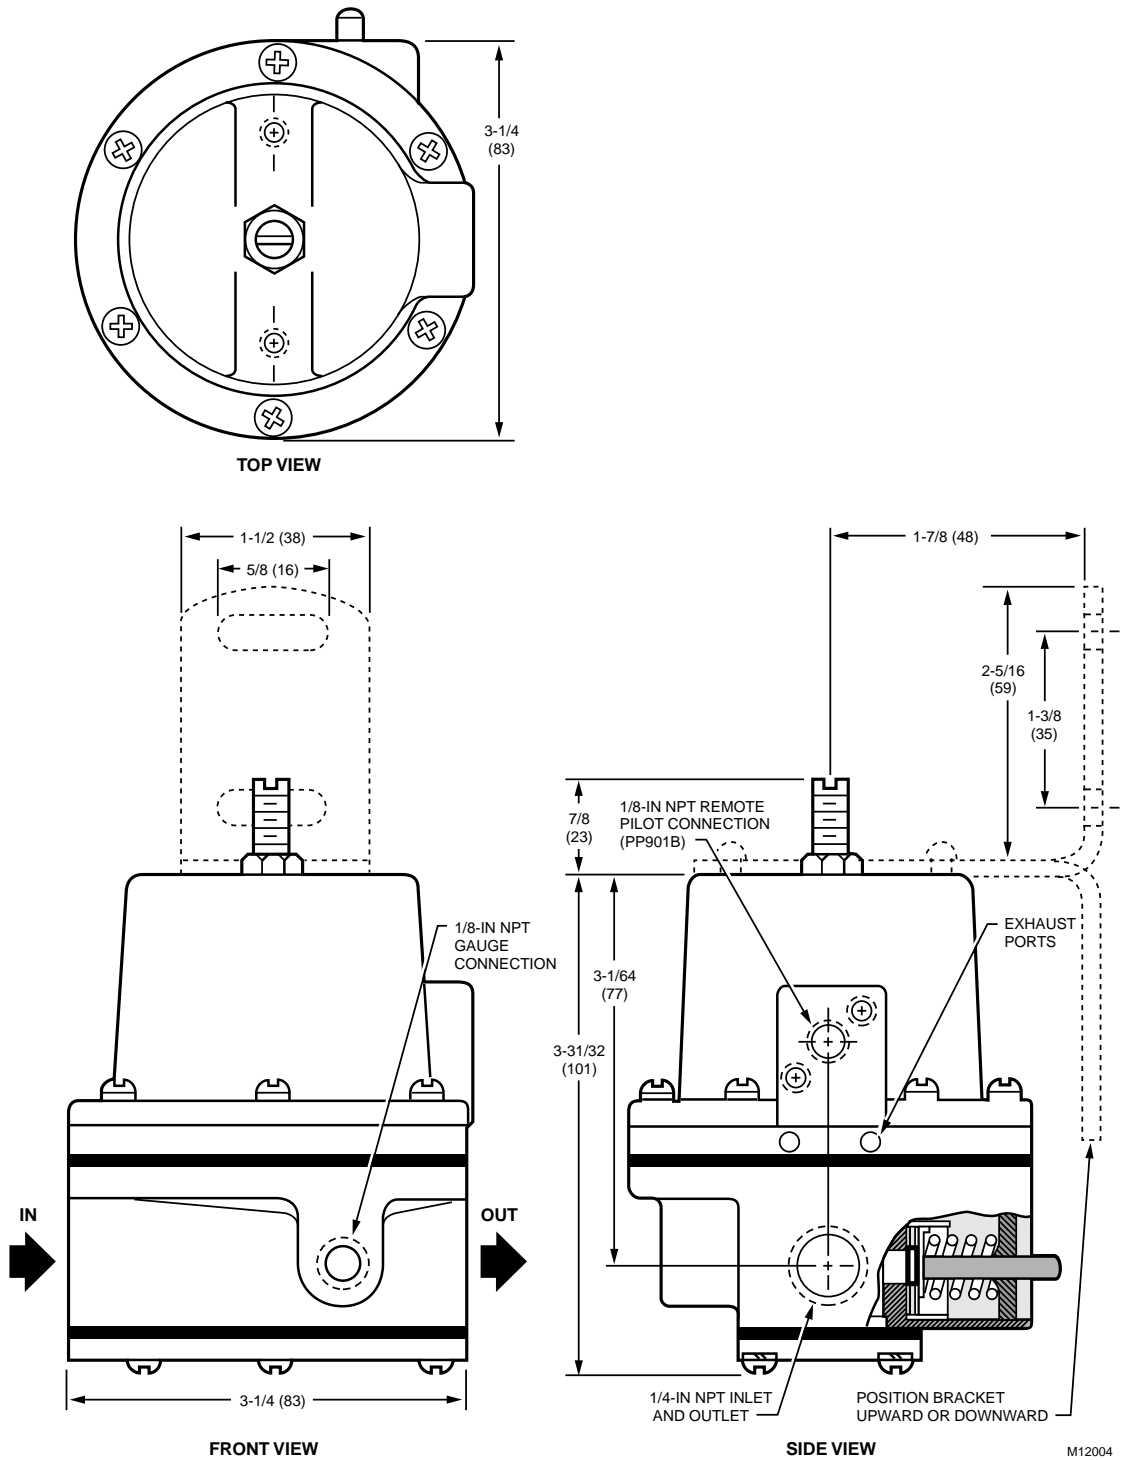

Fig. 1. PP901A & B Dimensions in Inches (Millimeters).
Refer to job drawings and Fig. 1. Mount PP901A or B in one of the following ways:
- 1 Connect PP901A & B INLET and OUTLET piping (Fig. 1).